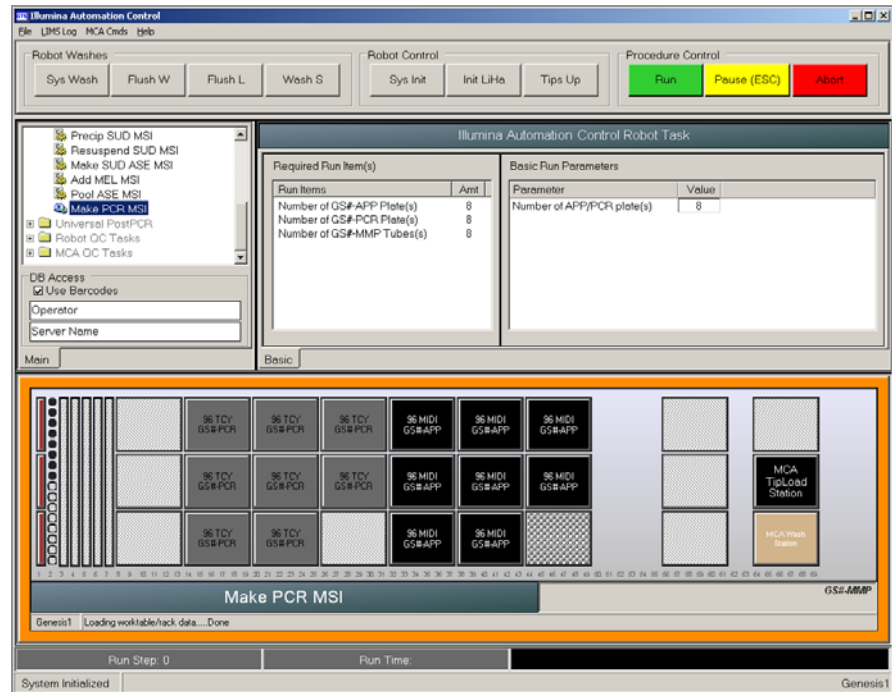

Figure 38 Universal MSI PrePCR | Make PCR MSI
1. From the robot PC, select **Universal MSI PrePCR | Make PCR MSI** (Figure 38).